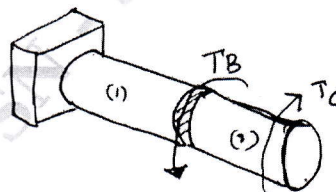

Fig. Q8 (a)
- 8 a. A compound shaft consists of two pipe segments. Segment (i) has an outer diameter of 200 mm and a wall thickness of 10 mm. Segment (2) has an outside diameter of 150 mm and a wall thickness of 10 mm. The shaft is subjected to torques $T_B = 42$ kNm and $T_C = 18$ kNm which act in the direction as shown in Fig. Q8 (a). Determine the maximum shear stress magnitude in each shaft segment. (10 Marks)